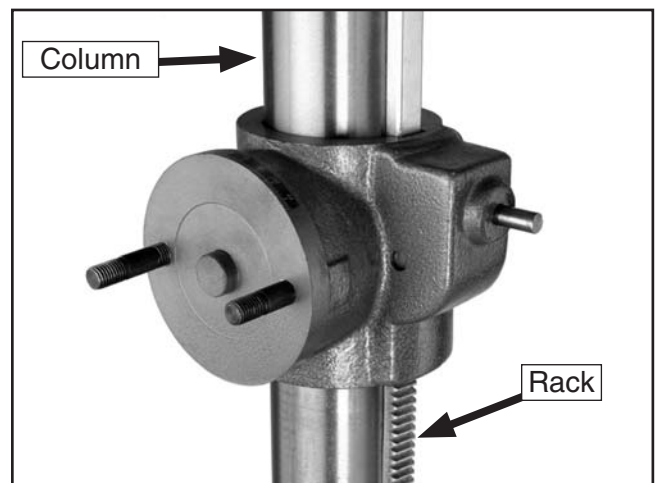

Figure 10. Table bracket installed on column.
3. Place the rack inside the table bracket, engage it with the gear inside the table bracket, and slide the rack and table bracket onto the column, as shown in **Figure 10**.